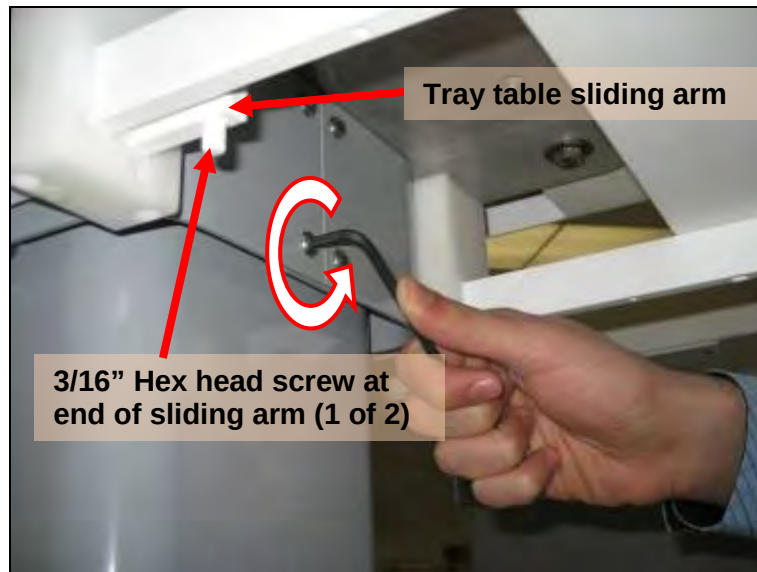

Figure 25
4. Remove the two half skirts from the FSA of the stretcher by unscrewing the four round head screws on each side using a 5/32" Allen key (Figure 25). To gain access to these screws, the tray tables can be extended to their outermost position. These tray tables may also be removed by unscrewing and removing the screws at the end of their sliding arms using a 3/16" Allen key (Figure 25). Since each tray table has two sliding arms, a screw must be removed from each sliding arm before the table can be pulled out.